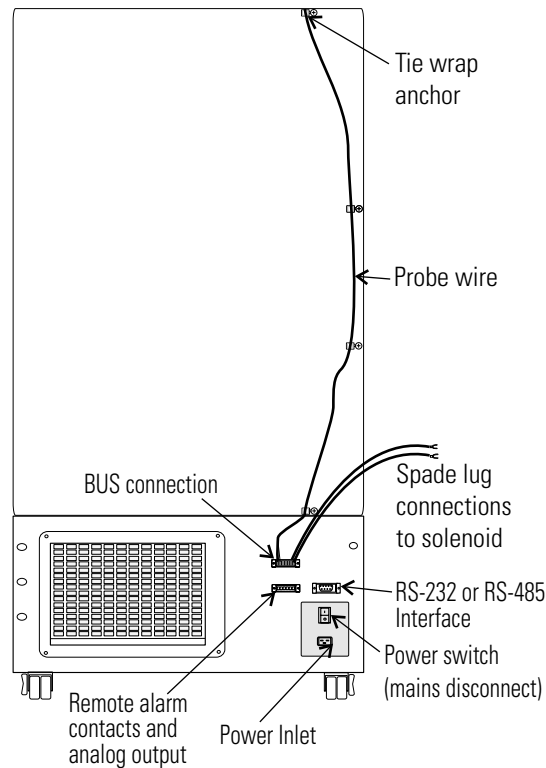

Figure 6-5. Connections
1. Remove the four screws on the freezer back panel and use them to mount the tie wrap anchors as shown in Figure 6-5. Secure the probe wire with tie wraps.
4. Connect power to the freezer. Turn the freezer On, with battery switch Off (O).